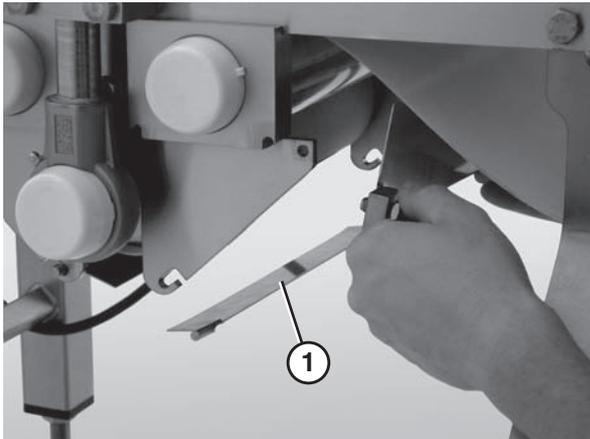

Figure 16
- Lift up on the center drive guard (Figure 16, item 1) and remove it.
- Reattach the center drive guards (Figure 16, item 1).